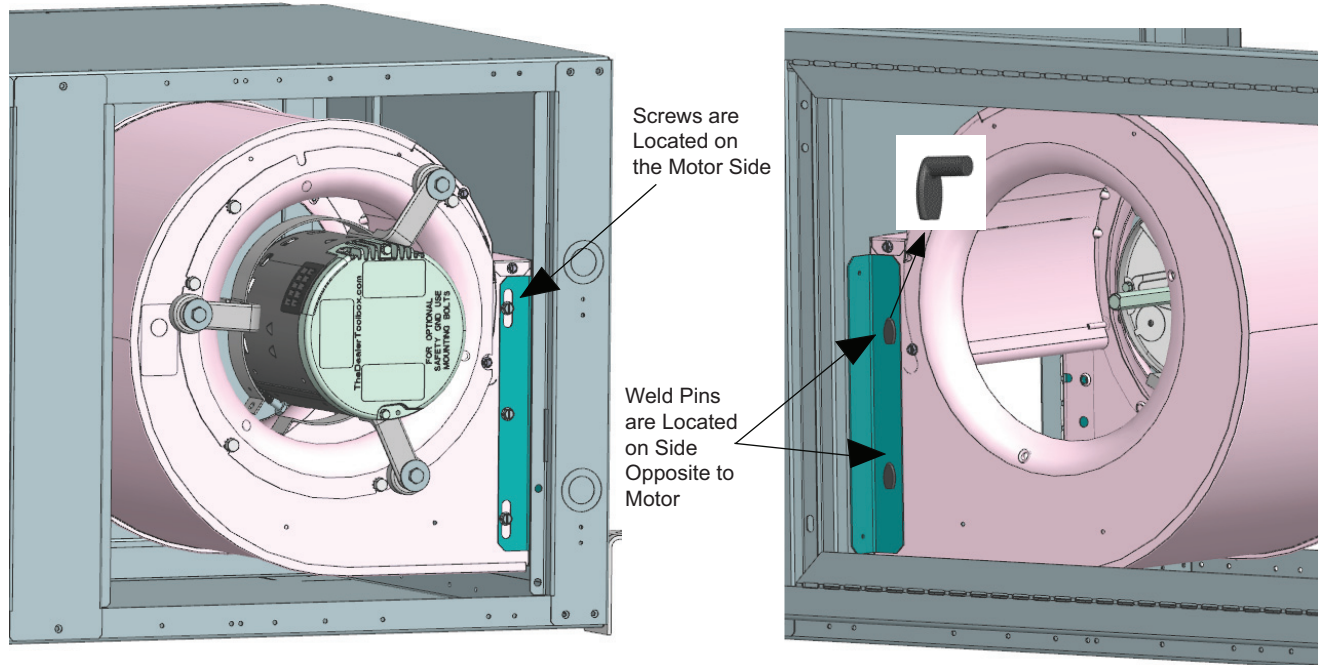

Fig. 62 — Horizontal Units Blower Assembly
3. Remove the three screws located on the motor side of the blower assembly. See Fig. 62.
4. Twist and pull blower back from welded pins located on opposite side to the motor, near the evaporator. See Fig. 62.